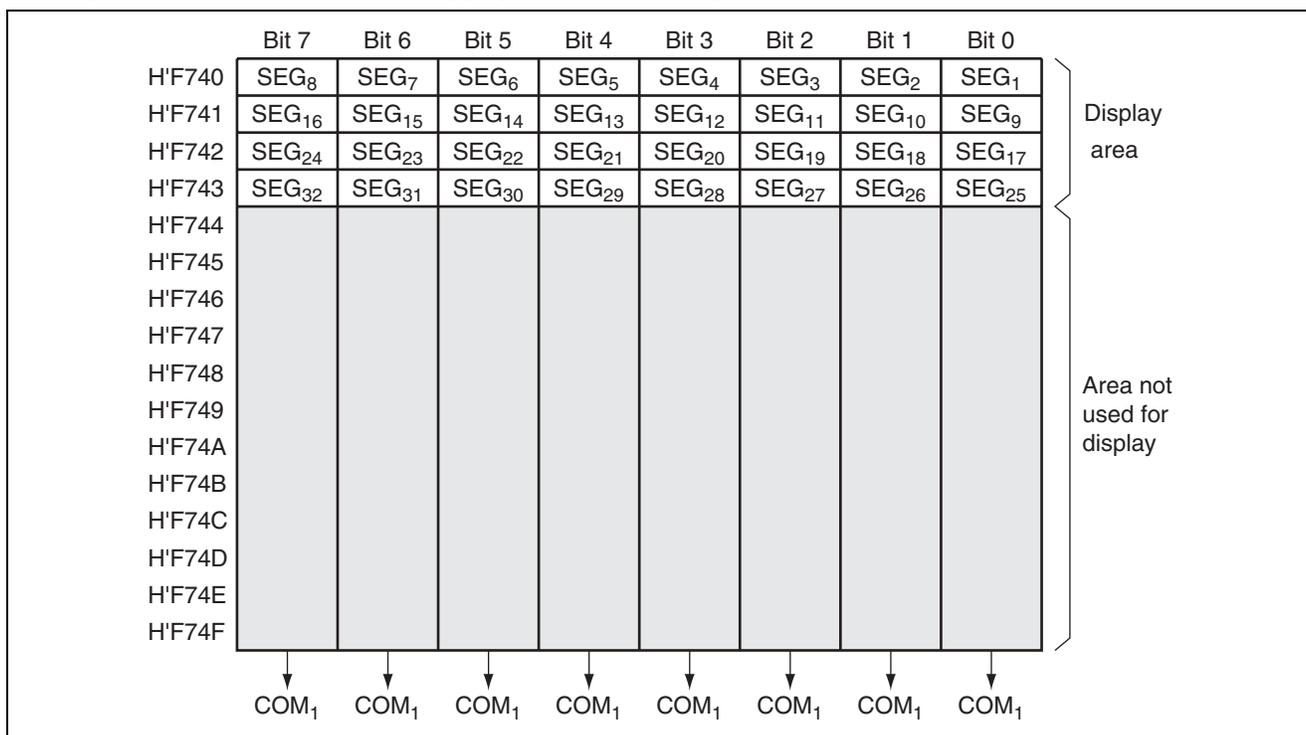

Figure 2.3 LCD RAM Mapping under Static Driving
5. Figure 2.3 shows the LCD RAM mapping under static driving.